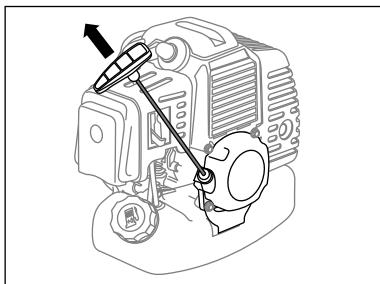

fig. 12
- While holding the trimmer, pull the handle of the starter until it "ignites". Quickly pull the starter handle. Repeat these steps until the engine starts (fig. 12).